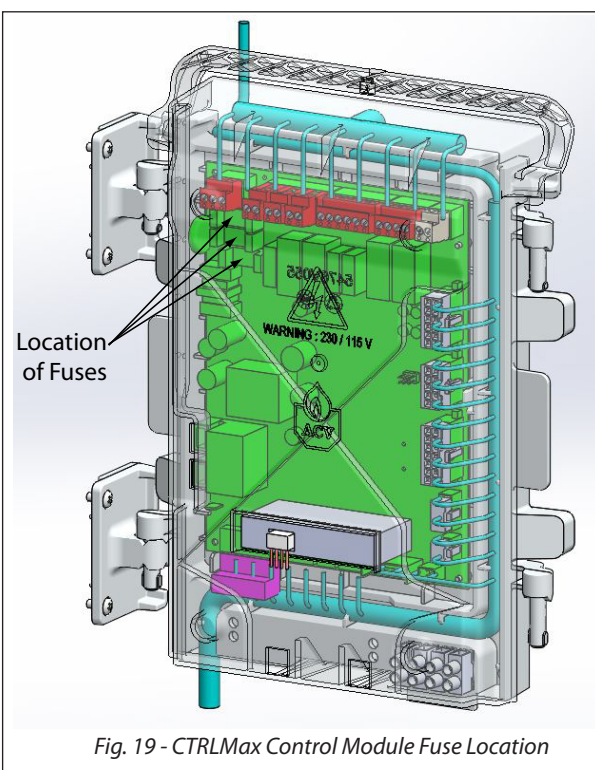

Fig. 19 - CTRLMax Control Module Fuse Location
- The CTRLMax control module contains 3 internal replaceable 5A fuses as shown in *Figure 19 below*.